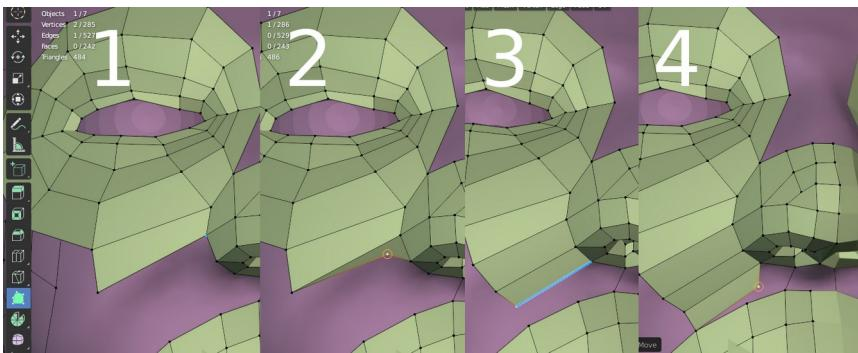

Figure 7-13 Using the Poly Build Tool
2. Move the mouse until a corner vertex is highlighted blue as in Figure 7-13 stage 1. Now press **CTRL** to see the new quad, if you press **CTRL** when an edge is highlighted you will get a new triangle. I find that it is better to press and hold **LMB** very quickly after pressing **CTRL**, before poly build changes its mind. The alternative approach is to press **CTRL** all the time and move the mouse around to get the quad forming where you want it. The latter method is probably quicker in simple areas but the former method seems less frustrating where the topology is already congested. Drag the new vertex to create the correct shape for the quad, as in Figure 7-13 stage 2.
3. To extrude a new quad from one edge of an existing quad, press and hold **LMB** while an edge is highlighted as in Figure 7-13 stage 3. Move the remaining vertex after extrusion by dragging a single blue dot shown in Figure 7-13 stage 4, exactly the same as when using tweak select.
This section on using poly build would not be complete without a mention of two other add-ons that are available in Blender extensions, but not enabled by default. The first is F2 which changes the behavior of the shortcut F such that if a corner vertex is selected, in a similar position to the blue highlighted one in Figure 7-13 stage 1, you can create a new quad in a very similar way to poly building. The other is Polyquilt which gives a range of tools for quickly building up meshes using quads. Polyquilt can give a massive increase in productivity, especially if you have facilities to draw with a graphics tablet rather than the mouse, however you should learn the basic, manual methods first, in order to derive the most benefit from any add-ons that you decide to use.